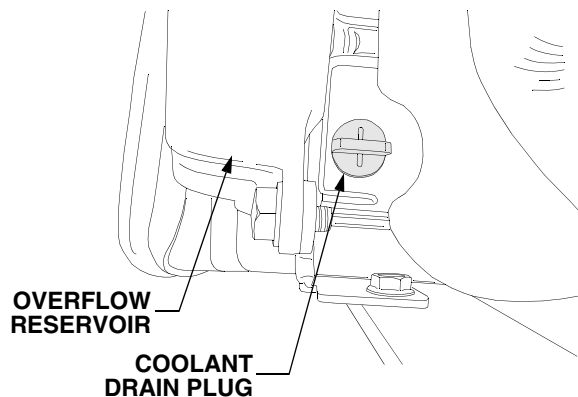

Figure 57
- Locate the radiator drain plug in the lower left rear corner of the radiator. See Figure 57.